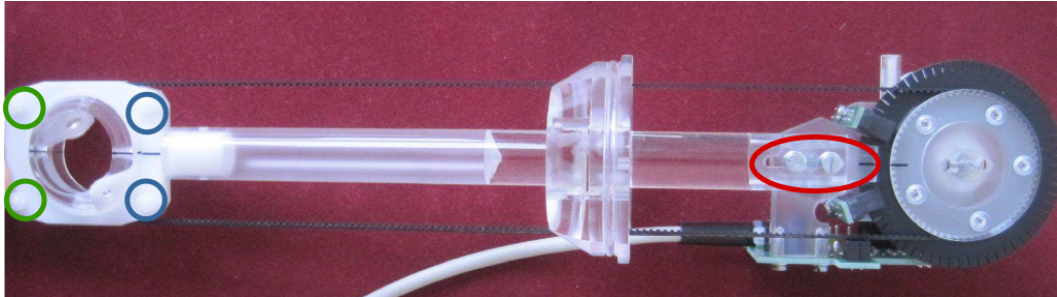
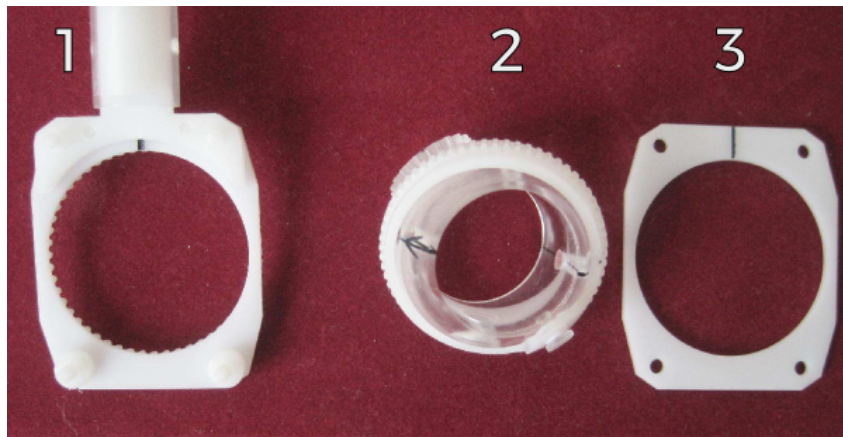
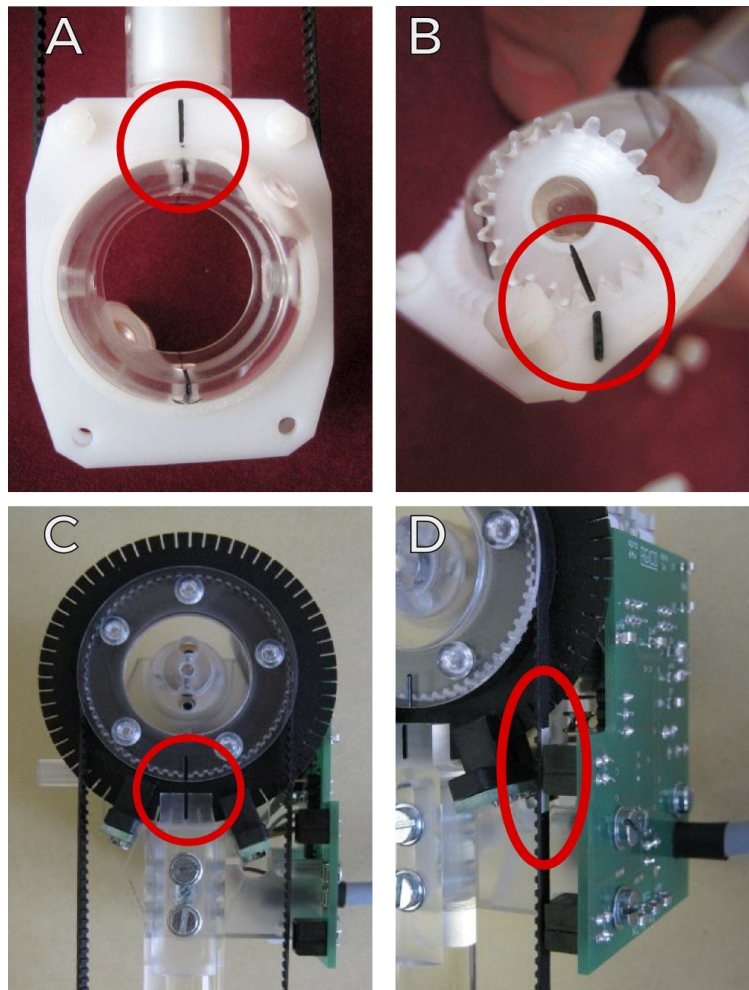

Figure 13: Position of the screws on rotator
Figure 15: Dismantled rotator
Figure 16: Aligning marks on rotator and white mark on belt
- Loose two metal screws (just a little bit, half-turn is enough) marked by big red circle on Fig.13, but do not unscrew them. Unscrew two screws marked by the green circles on Fig.13.
- Unscrew two plastic screws marked by the blue circles on Fig.13 and dismantle the bottom part of rotator as seen on Fig.15.
- Insert the rotator shell (No.2 on Fig.15) into its holder (No.1 on Fig.15). Make sure that the marks shown on Fig.16 A and B are simultaneously aligned as on the picture. Then cover it with rectangular plate (No.3 on Fig.15) and carefully screw two plastic screws marked on Fig.13 by blue circles.
- Put on the driving belt and make sure that all the marks shown on Fig.16 A, B, C and D are simultaneously aligned as on picture.
- Gently screw two plastic screws marked on Fig.13 by green circles. Do not forget to use pads to keep entire system in correct position.
- Apply some tension on belt and tighten the metal screws marked on Fig.13 by red circle. Do not put on the top cover of rotator, yet.
- Open **Auxiliary commands** window (Execute|Auxiliary commands). Click on the **INITIAL POSITION** button, wait until this procedure is finished and check the position of the marks as shown on Fig.16 A, B, C and D.